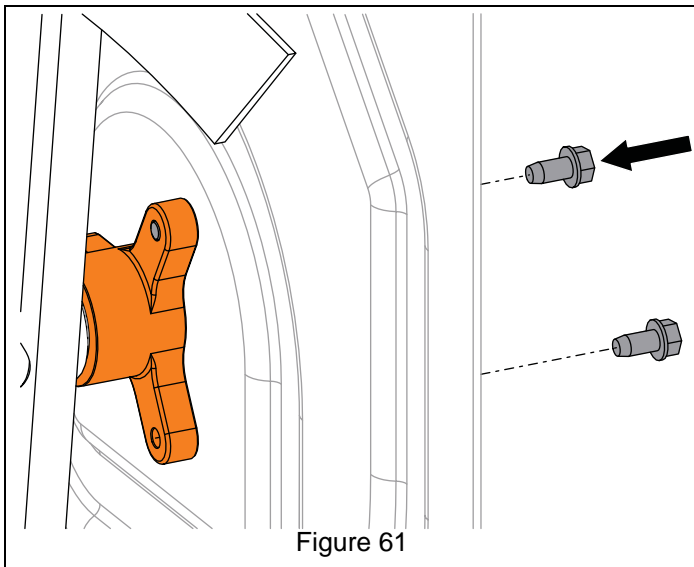

Figure 61
5. Secure support bushings to auger housing with six tapping screws. See Figure 61.